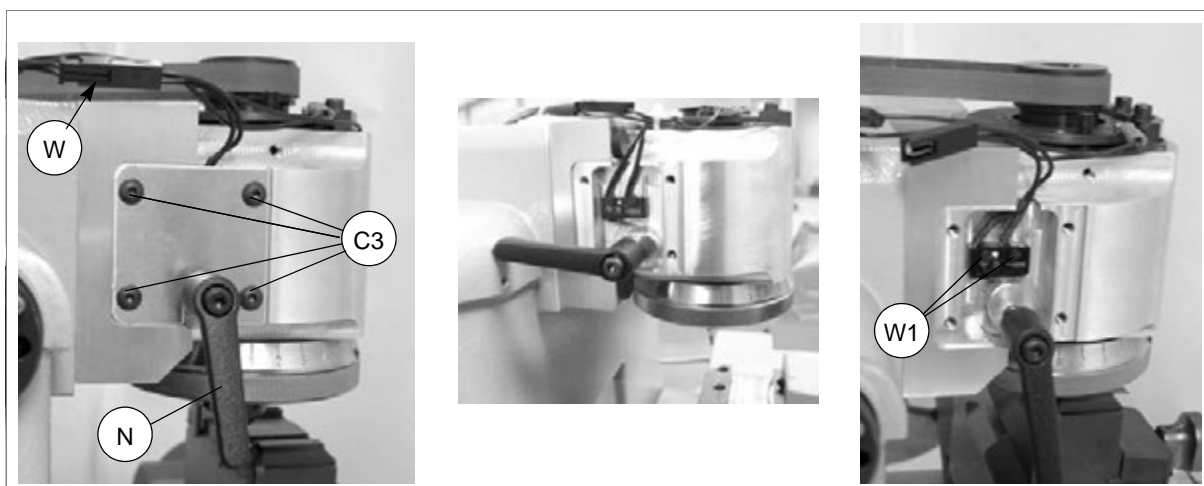

Fig. 86
- 2) loosen the 4 screws (C3) and remove the plate covering the microswitch (fig. 86).
- 3) disconnect the microswitch connector (W).
- 4) turn the lever/handle (N) anticlockwise to free the microswitch fin.
- 6) connect the connector (W) to the new microswitch.
- 8) before tightening the two screws (W1) adjust the microswitch position and check with the special test (Test 8, see Ch. 5.8.2, page 51). When locking the microswitch fin the lever/handle (N) should be positioned vertically downwards (fig. 86).